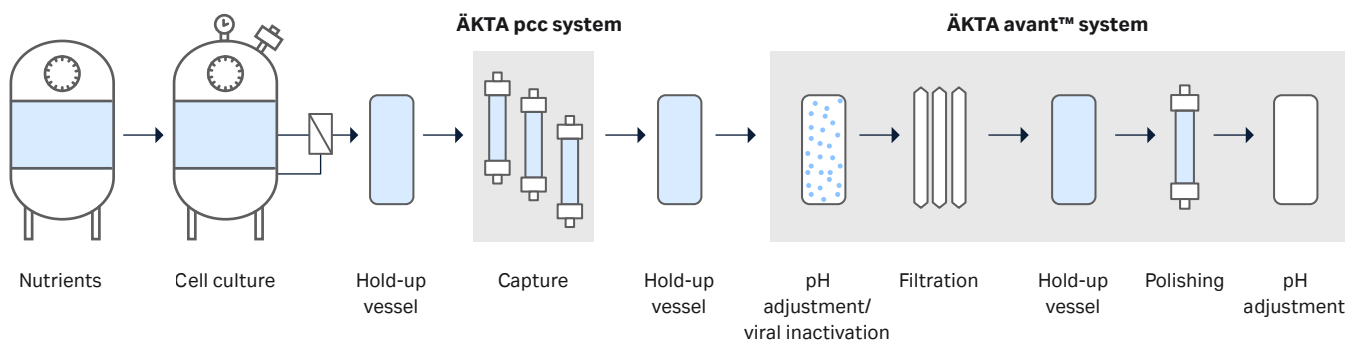

Fig 15. Schematic overview of the connected and integrated process, with hold-up vessels placed between the different unit operations.
Another example of a semi-continuous process is described in our application note CY14069. Here, a demonstration of how different unit operations in a laboratory-scale mAb process can be connected and integrated into a semi-continuous process is described. In brief, the mAb process consists of perfusion cell culture, continuous capture chromatography, viral inactivation (VI), post VI filtration, batch polishing chromatography, and a final pH adjustment step (Fig 15).